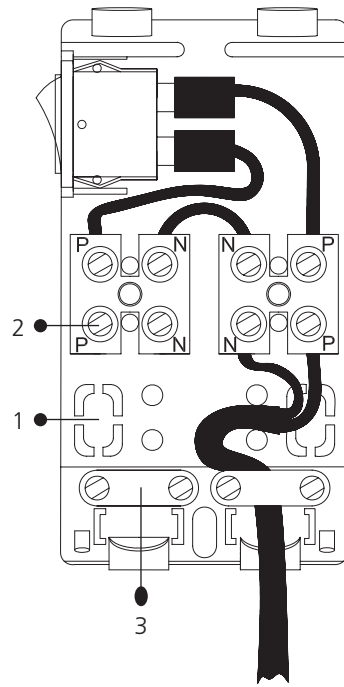

Fig. 4
2. Electrical connection with mains: fix the mains in clamp (2) and clamp the mains with the cable clamp (3) (see fig. 4).
- Electrical connection with flush connection: open the basis at the defined place (1) and connect the connection wires (230/240 V) to the clamp (2) (see fig. 4).